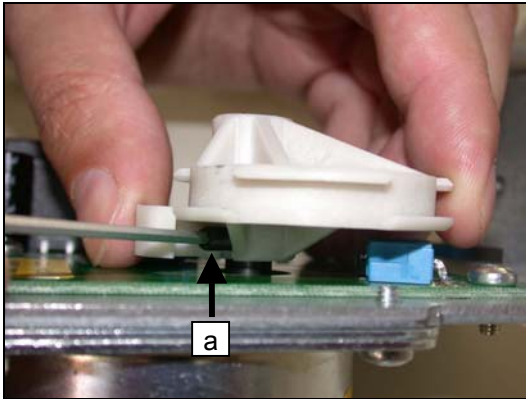

Fig. 19
- Undo the hexagon socket screw (Fig. 19, a) on the eccentric disc.
- Push the new eccentric disc as far as it will go on the motor axis and tighten the hexagon socket screw (Fig. 19, a) on the eccentric disc.